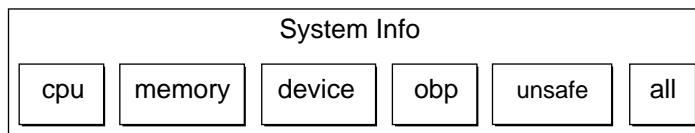

FIGURE 2-6 System Information Buttons
1. Click on any of the **System Info** buttons during the DR operation (FIGURE 2-6).